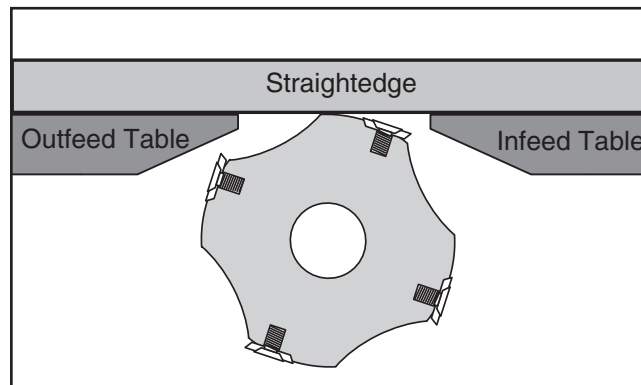

Figure 22. Infeed table level with outfeed table.
3. Adjust infeed table until it is level with outfeed table (see **Figure 22**).